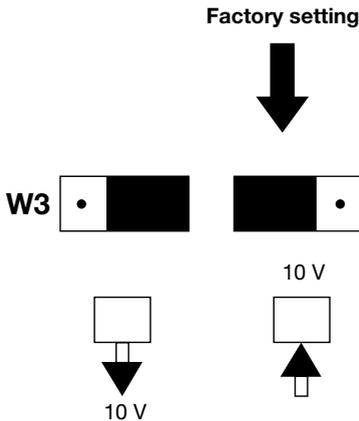

Fig. 29 Setting reverse or direct acting.
4.2.3 Setting the W3 jumper switch (reverse or direct acting, Figure 29)